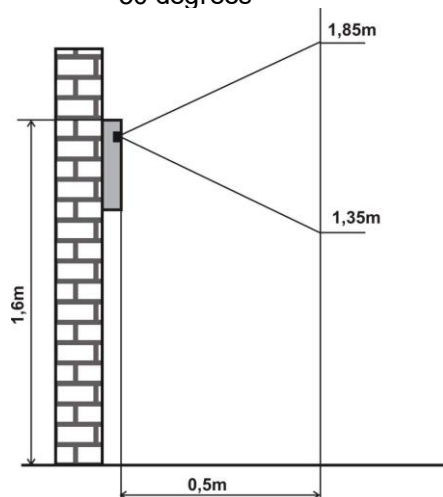

**Fig. 3 Examples of relay connection**
**Relays (10)** on Fig. 1 have many possibilities of practical use. The examples (drawings) can be found on Fig. 3. 12V power supply must be connected for correct operation. The doorphone unit has got all important parts galvanically isolated. The telephone line is isolated from the power supply. The relays´ contacts are also galvanically isolated from other doorphone electronic parts.
to the mains power supply, please use contactors (power relays) as shown on Fig. 3 example (6).
4. Extending the previous example (3) to two doors with progressive opening (this feature is setup in the TimeRelay unit, which is an optional add-on module)